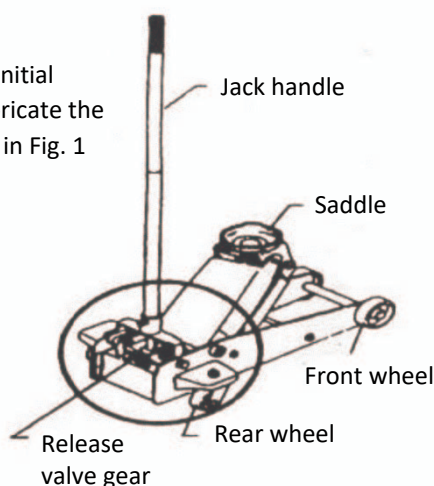

Fig. 1
**Note:** Before initial operation, lubricate the jack as shown in Fig. 1